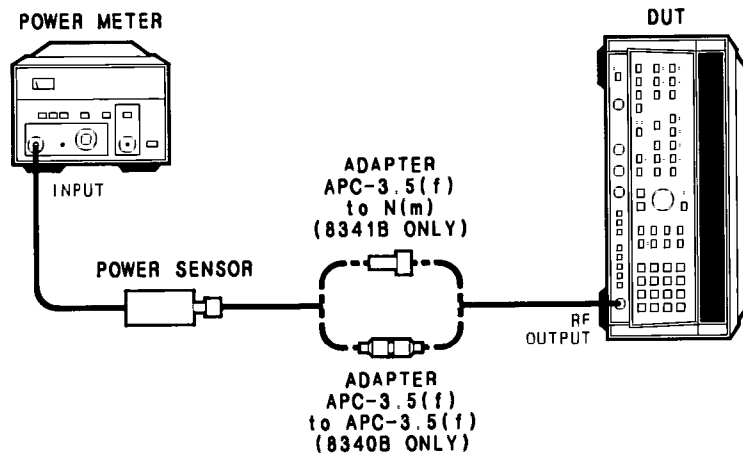

Figure 5-47. ALC Adjustment Test Setup
15. Connect the equipment as shown in Figure 5-47. Calibrate and zero the power meter. Allow one hour warmup time. Connect the power sensor to the DUT's RF output. Press [INSTR PRESET] on the DUT. Press [CW] and enter [4] [.] [5] [GHz]. Press the [RF] key to turn the RF OFF and zero the power meter. To ensure that the power meter is properly zeroed, select "WATT" mode, and press ZERO until the power meter indicates ≤ 0.02 on the most sensitive range. Press [RF] to turn the RF ON. Press [PEAK] to turn peaking on. Press [SHIFT] [PWR SWP] to decouple the RF attenuator and ALC. Enter [0] [dBm]. If the display does not indicate ATTEN=0 dB, press STEP keys as necessary to select 0 dB attenuation.